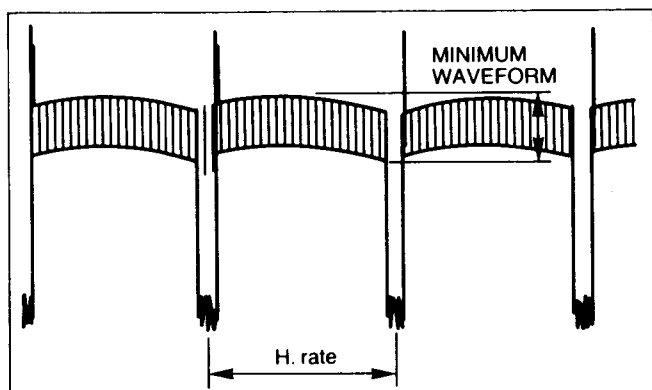

Fig. C21
- (1) Adjustment condition and procedure are same as using vectorscope.
- (2) Adjust VR305, and VR306, first and Adjust VR303, VR304 next so that the waveform is minimized as shown in Fig. C21.